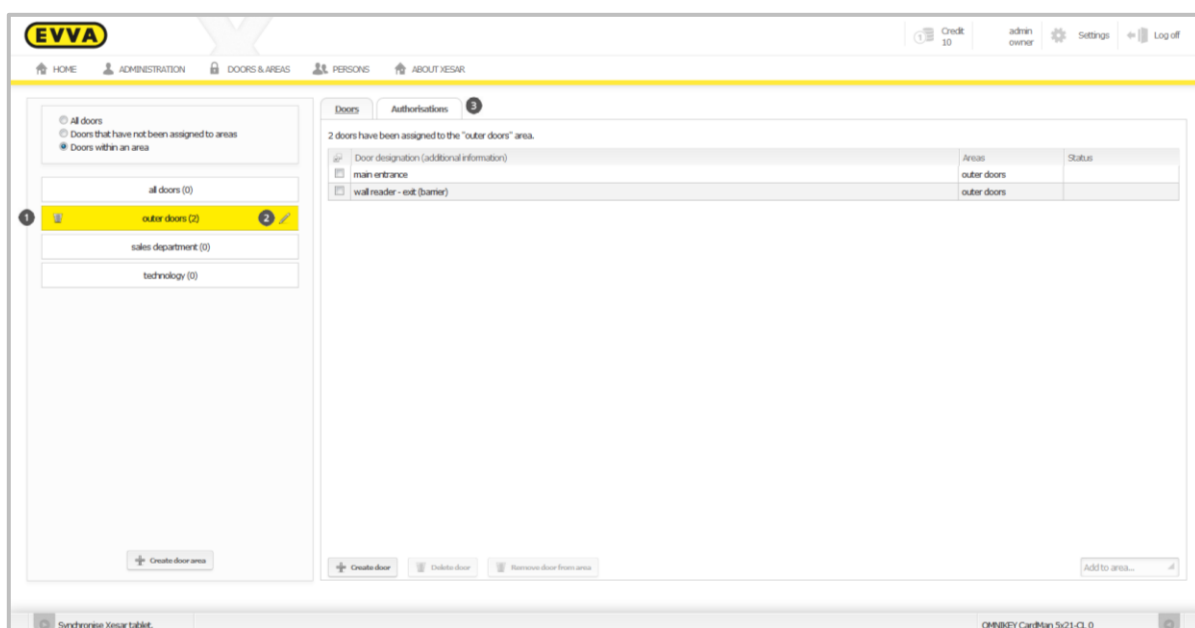

Figure 71: Door area level 2
Door areas will automatically be highlighted in yellow once you have clicked to select them (Figure 71: Door area level 2).
- Then click the pen icon  (Figure 71: Door area level 2).